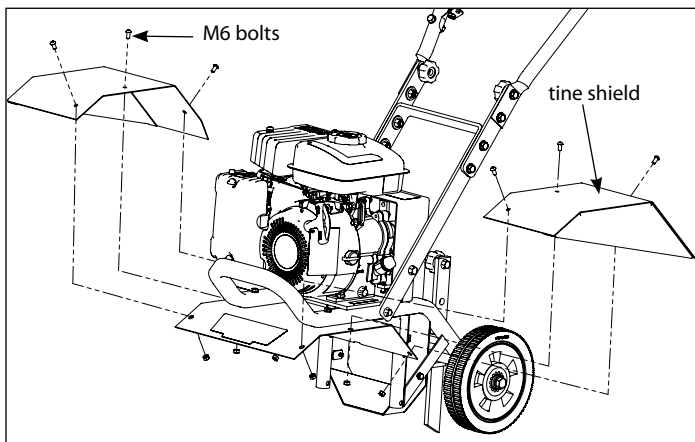

Figure 4
5. Assemble tine shield extensions using six (6) M6 bolts and six (6) nylock nuts. **SEE FIGURE 4.**